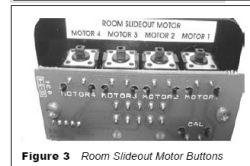

Figure 3 Room Slideout Motor Buttons
4. The unit is now ready to retract the room. Press and hold the ROOM SLIDEOUT MOTOR buttons 1 and 2 on the back of the touchpad (Fig 3).
Press the IN button on the front of the wall touchpad until the room is fully retracted. If one side of the room needs to retract further in order to get a good seal, press and hold the motor button (Fig 3) corresponding to **ONLY** the motor you want to move. Press the IN button on the front of the touchpad to retract the room the remainder of the way.